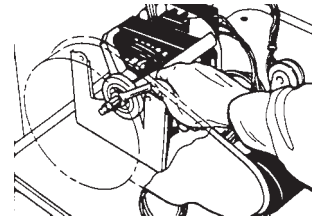

Fig. 4-18
4. Reach behind the blower housing and place a 7/8" open end wrench on the motor. (Fig. 4-18) Rotate the blower wheel clockwise to lock the motor shaft with the wrench. Allow wrench to lock against the motor bracket.